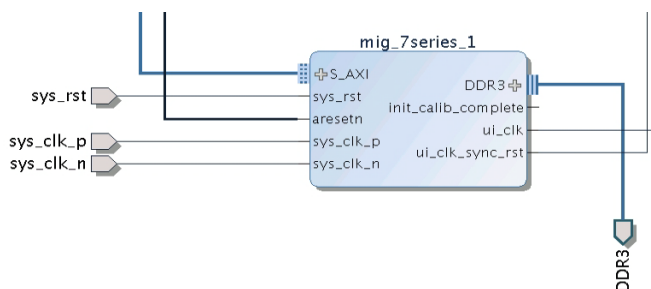

Figure 55: Mig\_7\_Series Ports
4. Right-click the DDR3 interface and select **Create Interface Port** to create an interface port. DDR now has the ports shown in Figure 55.